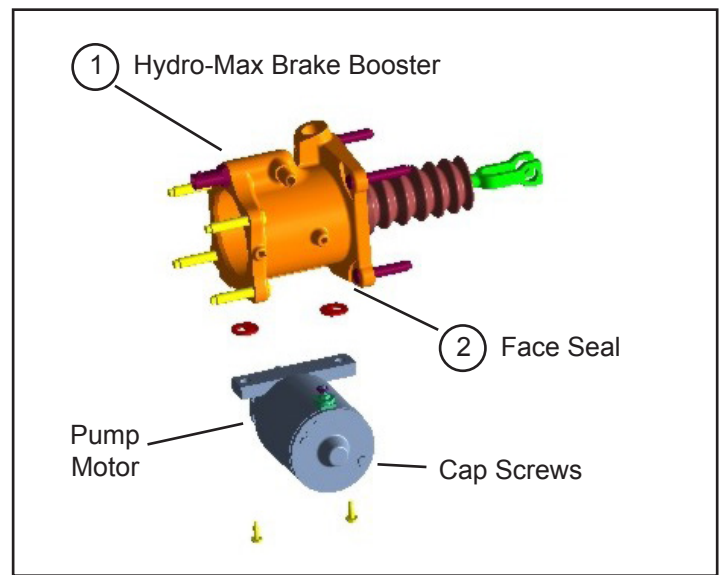
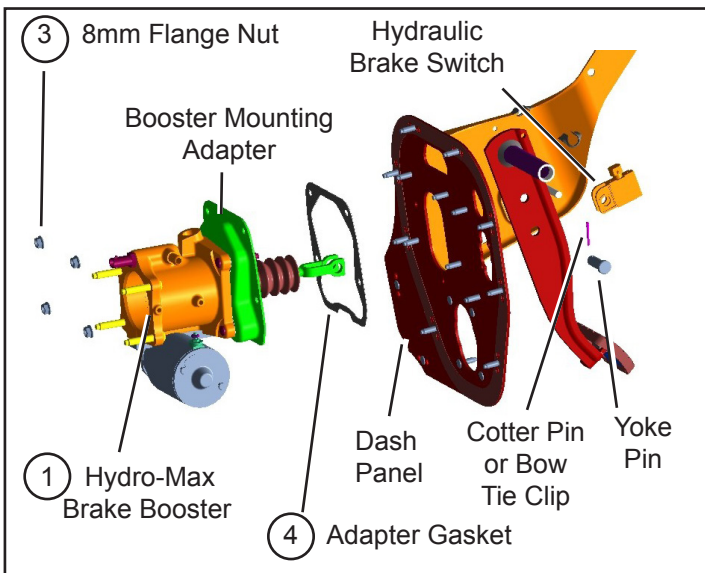
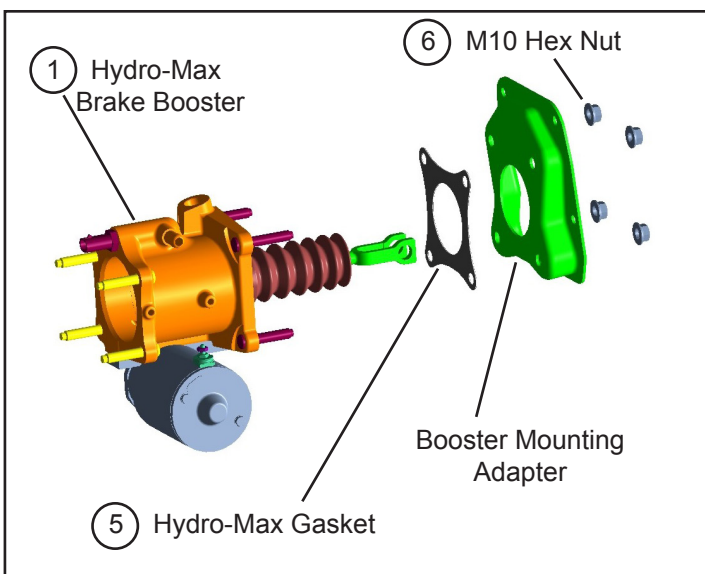

Figure 5 Master Cylinder Pump Motor Removal
Figure 3 Hydro-Max Booster Removal
Figure 4 Booster Mounting Adapter Removal
5. From the passenger side of the cab, remove the cotter pin or bow-tie clip and yoke pin from the brake pedal push rod. A hammer and punch may be necessary for removal. *Refer to Figure 3.* The hydraulic brake pedal switch electrical connector does not need to be disconnected.
6. Mark the orientation of the Hydro-Max brake booster (1) mounting adapter on the dash panel. Remove the four 8mm flange nuts (3) that secure the booster mounting adapter to the dash panel.
7. Slide the Hydro-Max brake booster (1) out, pulling the push rod through the dash panel.
8. As shown in Figure 4, remove the booster mounting adapter and Hydro-Max gasket (5) from the Hydro-Max booster (1) by removing the four M10 hex nuts (6).
10. Note the orientation of the electric pump motor on the Hydro-Max brake booster (1). Remove the two cap screws that secure the pump motor to the Hydro-Max body and remove the pump motor. *Note: Approximately three cups of oil will drain out of the Hydro-Max when the pump motor is removed.* Avoid damaging the mating surfaces when removing the pump motor.
11. Remove and discard the two pump motor face seals (2). *Refer to Figure 5.*